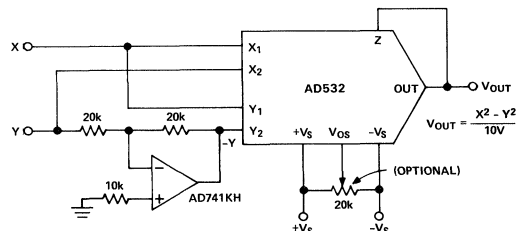

Figure 15. Differential of Squares Connection
The differential input capability of the AD532 allows for the algebraic solution of several interesting functions, such as the difference of squares,  $X^2 - Y^2 / 10V$ . As shown in Figure 15, the AD532 is configured in the square mode, with a simple unity gain inverter connected between one of the signal inputs (Y) and one of the inverting input terminals (-Yin) of the multiplier. The inverter should use precision (0.1%) resistors or be otherwise trimmed for unity gain for best accuracy.